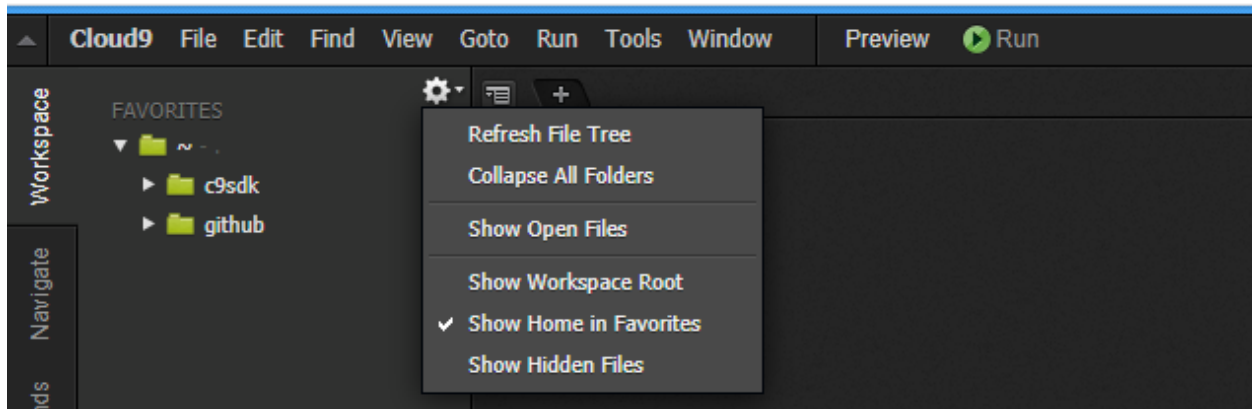

Figure 4
- b. Click on the gear and a drop-down menu will appear, select the option to “*Show Home in Favorites*” so that it is like Figure 4 shown below.